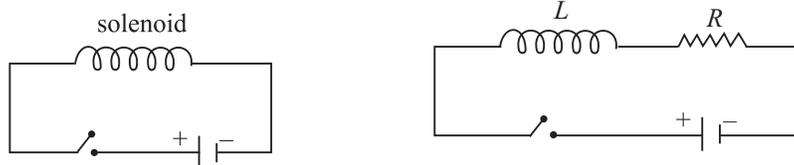
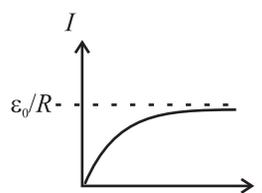

Fig. 19.9: LR Circuit
Fig.19.10 : Variation of current with time in a LR-circuit.
Suppose that a solenoid is connected to a battery through a switch (Fig.19.9). Beginning at $t = 0$, when the switch is closed, the battery causes charges to move in the circuit. A solenoid has inductance (L) and resistance (R), and each of these influence the current in the circuit. The inductive and resistive effects of a solenoid are shown schematically in Fig.19.10. The inductance (L) is shown in series with the resistance (R). For simplicity, we assume that total resistance in the circuit, including the internal resistance of the battery, is represented by R . Similarly, L includes the self-inductance of the connecting wires. A circuit such as that shown in Fig.19.9, containing resistance and inductance in series, is called an LR circuit. The role of the inductance in any circuit can be understood qualitatively. As the current $i(t)$ in the circuit increases (from $i = 0$ at $t = 0$), a self-induced emf $\epsilon = -L di/dt$ is produced in the inductance whose sense is opposite to the sense of the increasing current. This opposition to the increase in current prevents the current from rising abruptly.
If there been no inductance in the circuit, the current would have jumped immediately to the maximum value defined by ϵ_0/R . But due to an inductance coil in the circuit, the current rises gradually and reaches a steady state value of ϵ_0/R as $t \rightarrow \tau$. The time taken by the current to reach about two-third of its steady state value is equal to by L/R , which is called the **inductive time constant** of the circuit. Significant changes in current in an LR circuit cannot occur on time scales much shorter than L/R . The plot of the current with time is shown in Fig. 19.10.